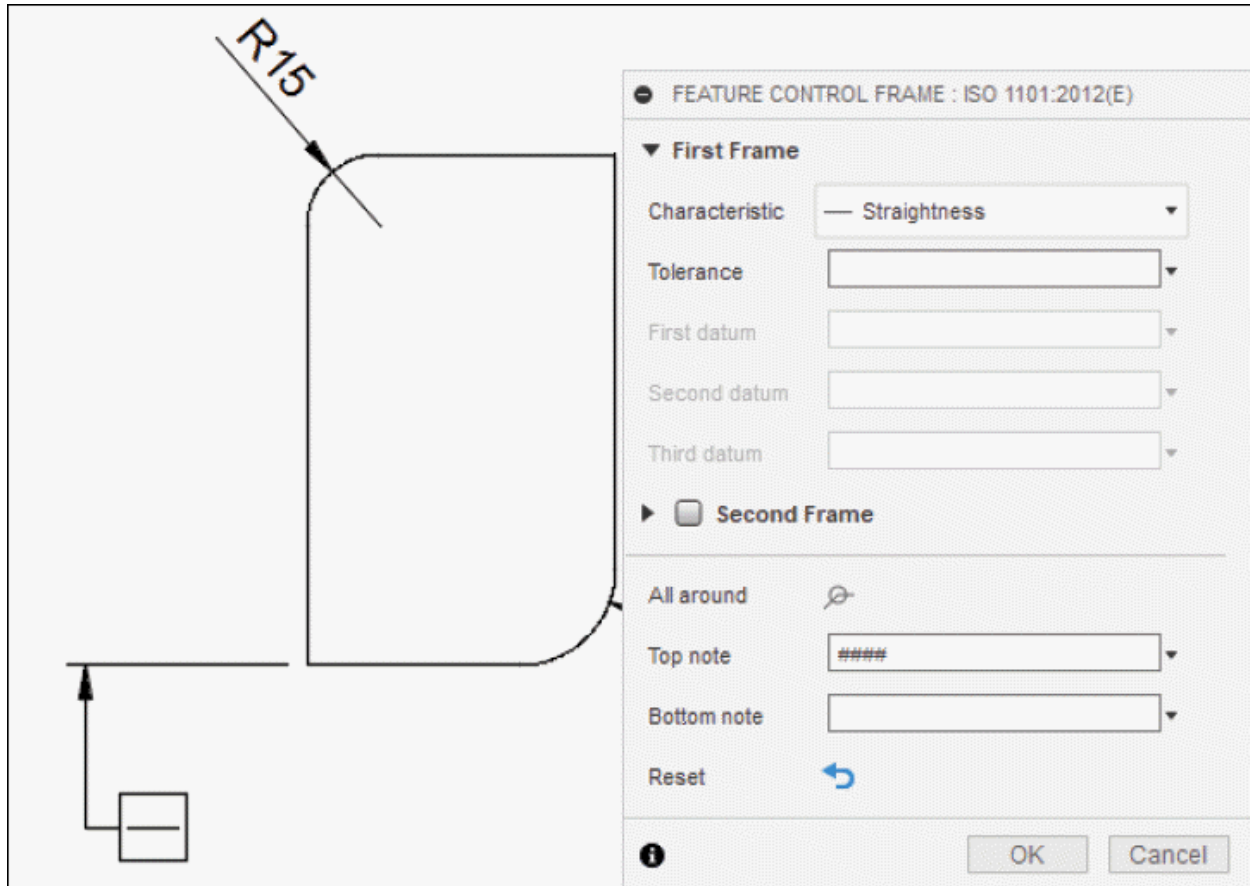

Figure-100. FEATURE CONTROL FRAME dialog box
- Click on the screen to place the rectangular box and press **ENTER** key. The **FEATURE CONTROL FRAME** dialog box will be displayed; refer to Figure-100.